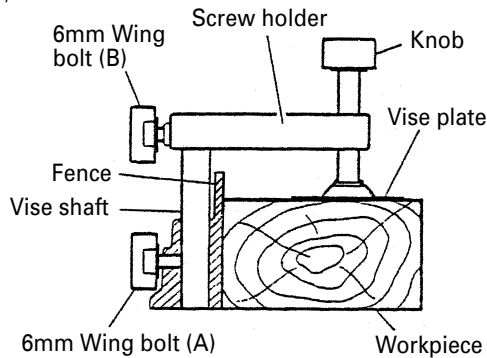

Fig. 21
- (1) The vise assembly can be mounted on either the left fence {Fence (B)} or the right fence {Fence (A)} by loosening the 6mm wing bolt (A).
- (2) The screw holder can be raised or lowered according to the height of the workpiece by loosening the 6mm wing bolt (B). After the adjustment, firmly tighten the 6mm wing bolt (B) and fix the screw holder.
- (3) Turn the upper knob and securely fix the workpiece in position (Fig. 21).